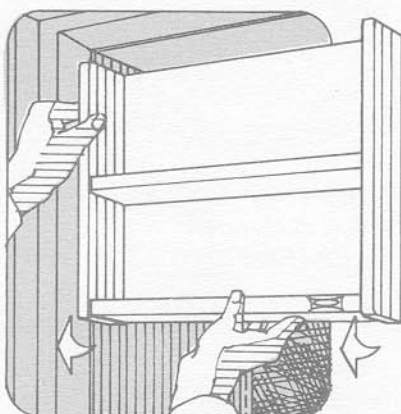
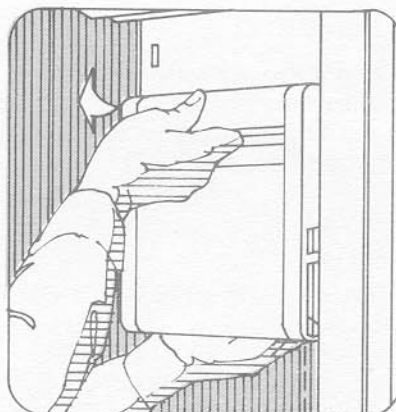
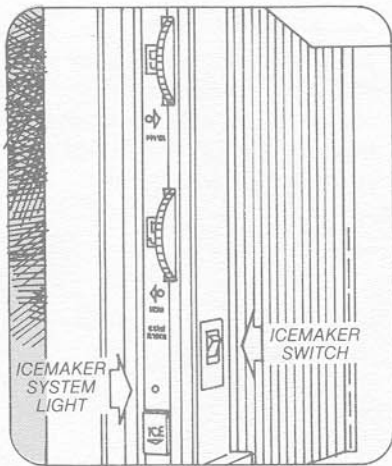

Figure 15
Figure 16
Figure 18
- 1) **If no ice**, is the ice system switch on? See Figure 18.
The freezer utility rack is specifically designed to accommodate and hold freezer juice containers. For the removal of the freezer utility rack, lift up and pull out at the bottom with one hand and then support the top with the other hand as in Figure 15.
To access the ice storage container, the freezer utility rack must be first removed. See Figure 15. To remove the ice storage container, lift up on the ice container handle and pull out having the bottom of the ice storage container supported with the other hand as shown in Figure 16.
This switch is located in the refrigerator section on the right hand side of the Control Panel Assembly. See Figure 18. **NOTE:** When the switch is on, the icemaker system light will be illuminated. See Figure 18. The design of this switch is to allow the icemaker and ice dispenser to be shut off for extended vacation periods. During these vacation periods, we recommend the icemaker switch be turned off. Then the ice storage container can be removed, emptied and returned to its location. See Figure 16. This prevents the unused ice, over a period of time, from shrinking and sticking together, possibly causing a "no ice" situation.